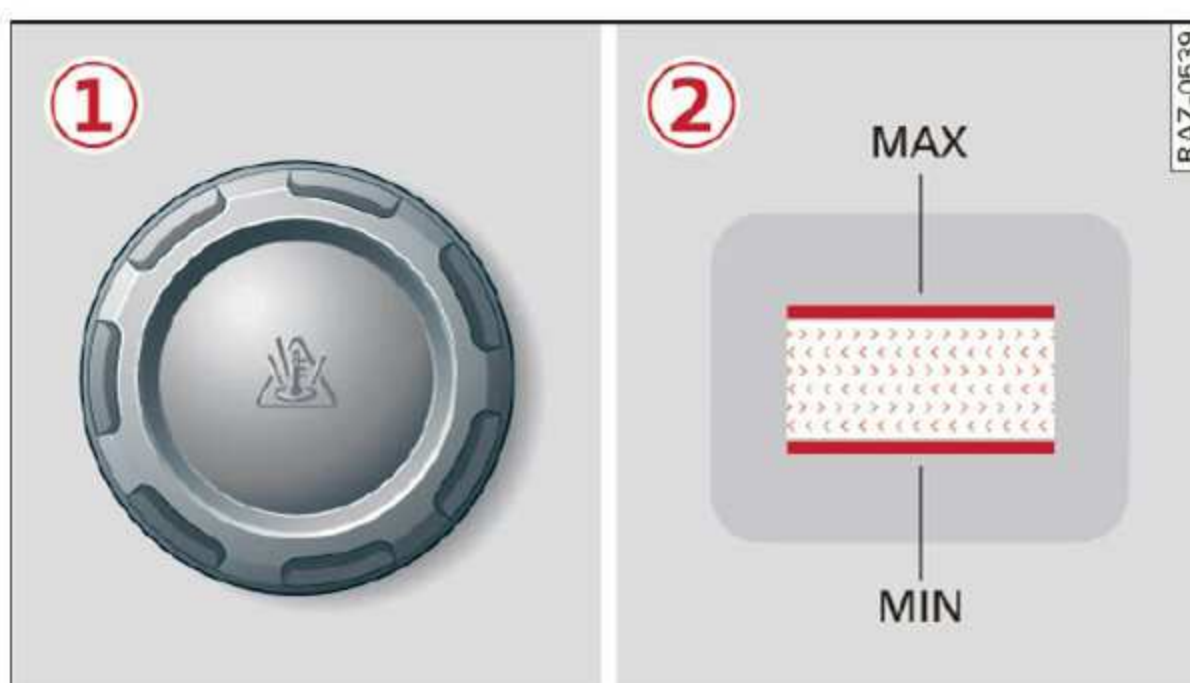

Fig. 177 Engine compartment - coolant expansion tank (diagram): ① cover; ② markings
- ▶ Read the coolant level on the coolant expansion tank ⇒ *page 230, fig. 174*. The coolant level must be between the markings ② ⇒ *fig. 177* when the engine is cold. When the engine is warm it can be slightly above the upper marking.
- ▶ Remove the cover ① ⇒ *fig. 177* carefully to the left ⇒ .
- ▶ Add the correct mixture ratio of coolant ⇒ *page 234* up to the upper marking ② ⇒ *fig. 177*.